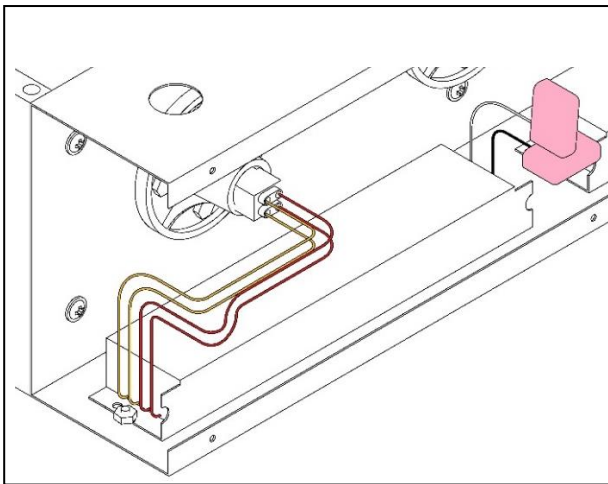

Figure 17
5.) Disconnect lamp plug and power attached to defective ballast. Take note of which terminals power the defective ballast so the new one can be wired correctly. See Figures 17 and 18.
6.) Use an 11/32" socket wrench to remove the (2) nuts holding the ballast into place.
8.) Reinsert and tighten the (2) nuts that hold the ballast in place with an 11/32" socket wrench. See Figures 17 and 18.